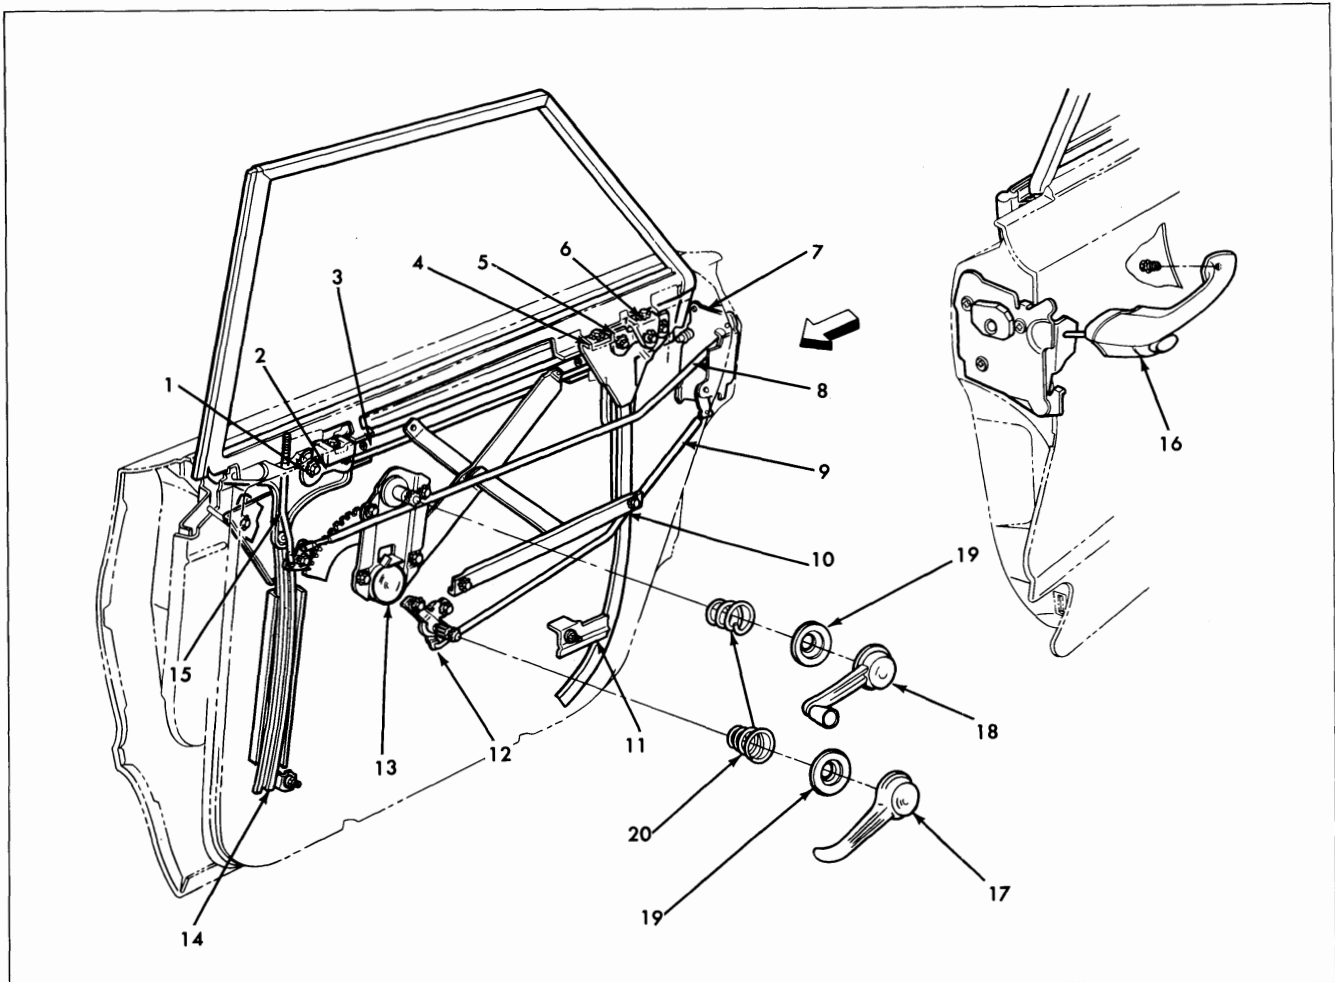

Fig. 3-42 Rear Door - Vista Sedans
Fig. 3-42 is typical of hard top sedan (39 style) rear doors with the trim and inner panel water deflector removed. This illustration identifies the component parts of the rear door, their relationship and various attaching points.
3. On 35, 45 and 69 styles, remove bolt securing lower end of glass run channel at door hinge pillar to gain access to spring clip securing rod to lock (Fig. 3-42).
5. Disengage rod from spring clip on door inner panel. Remove inside locking rod attaching bolt and remove assembly from door (see Figs. 3-42 and 3-45).